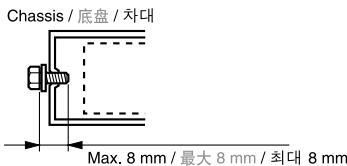

Figure 3 / 图 3 / 그림 3
- Use the enclosed screws for installation. Using other screws can cause damage. (Figure 3)
- 请使用附带的螺丝进行安装。使用其他螺丝可能引起故障。(图3)